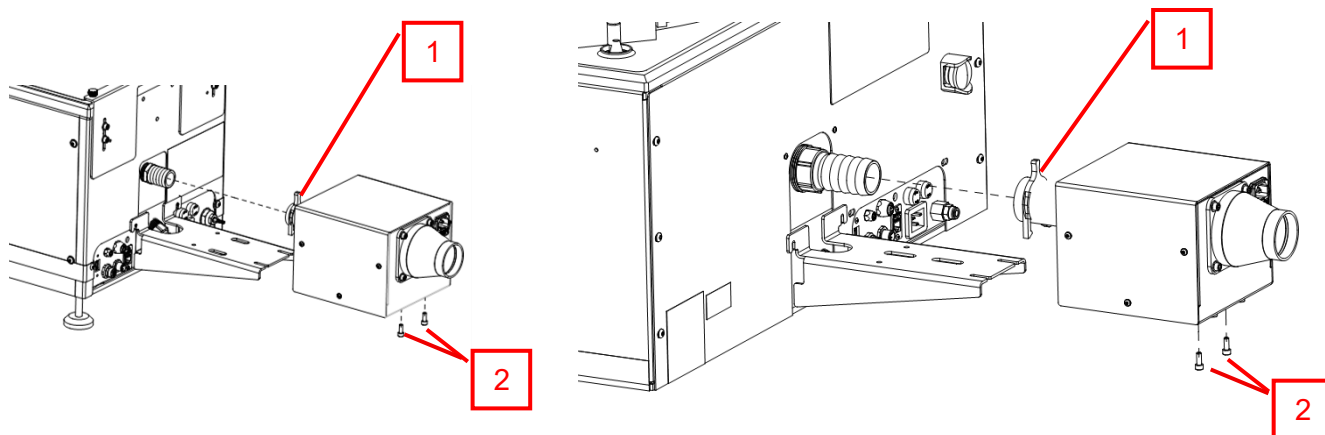

Figure 9 Apogee® 200 and 450 Spin Coater Optiflow™ Connection
10. Push the coupling fully onto the barb. The coupling retaining clip (#1 in Figure 9) will ratchet over the barb and lock in place.
11. Ensure the mounting screws (#2 in Figure 9) on the underside of OptiFlow™ are seated in the slots of the mounting bracket and tighten using an Allen key to secure the unit.